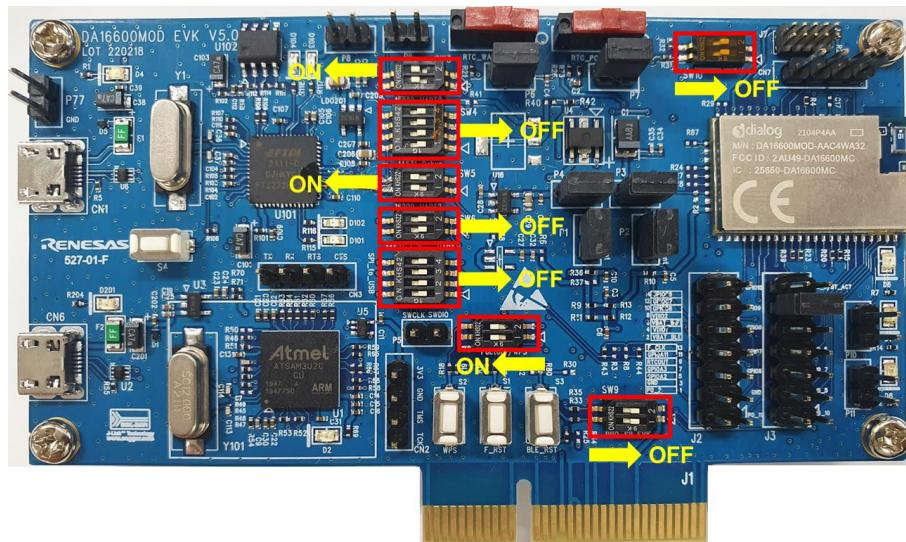

Figure 10. Configure DA16600 EVB for AT command – UART to FT2232H
**Figure 10** and **Table 11** show how to configure the DA16600 EVB for AT command processing over the UART. This configuration connects UART2 of the DA16200 (GPIOC6/7) to the FT2232H.